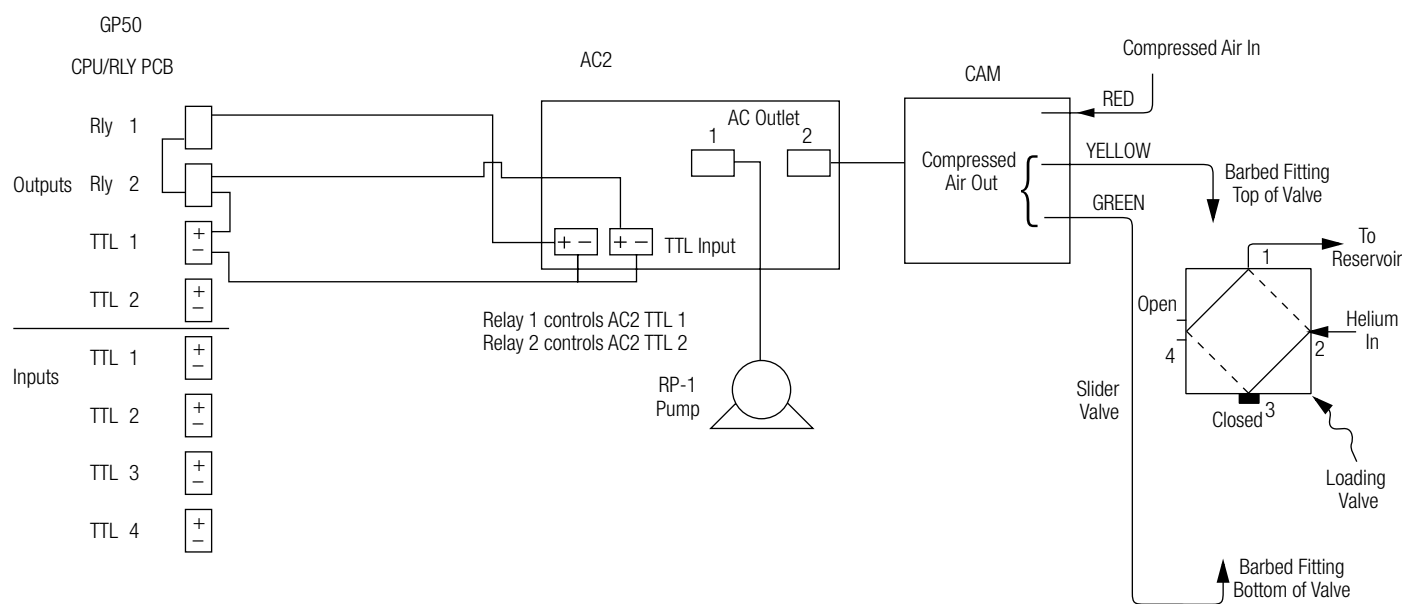

Figure 7. Wiring diagram for AC2 and CAM.
13. Connect the wires between the Dionex GP50 pump and the AC2 according to the wiring diagram in Figure 7. This wiring scheme will ensure that in the event of a power outage, that the units will be in the OFF position when power is restored.
15. Connect the color-coded air lines of the CAM (See Figure 7). The CAM directs 689 kPa (100 psi) air pressure to the slider valve to regulate the flow of 34.5 kPa (5 psi) helium to the reagent reservoir.